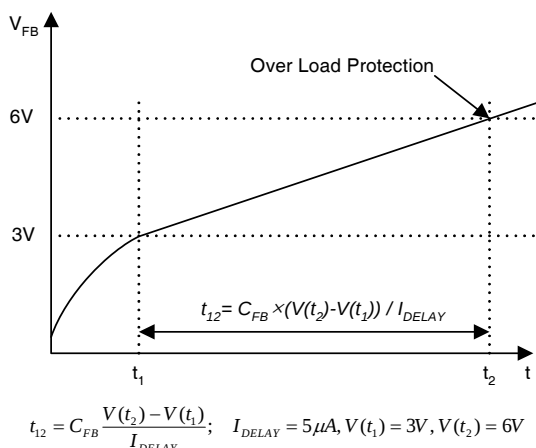

Figure 6. Over Load Protection (OLP)
4.1 Over Load Protection (OLP): Overload is defined as the load current exceeding a pre-set level due to an unexpected event. In this situation, the protection circuit should be activated in order to protect the SMPS. However, even when the SMPS is operating normally, the Over Load Protection (OLP) circuit can be activated during the load transition. In order to avoid this undesired operation, the OLP circuit is designed to be activated after a specified time to determine whether it is a transient situation or an overload situation. In conjunction with the Ipk current limit pin (if used) the current mode feedback path would limit the current in the Sense FET when the maximum PWM duty cycle is attained. If the output consumes more than this maximum power, the output voltage (Vo) decreases below its nominal voltage. This reduces the current through the optocoupler LED, which also reduces the optocoupler transistor current, thus increasing the feedback voltage (V_{FB}). If V_{FB} exceeds 3V, the feedback input diode is blocked and the 5μA current source (I_{DELAY}) starts to slowly charge Cfb up to Vcc. In this condition, V_{FB} increases until it reaches 6V, when the switching operation is terminated as shown in Figure 6. The shutdown delay time is the time required to charge Cfb from 3V to 6V with 5μA current source.